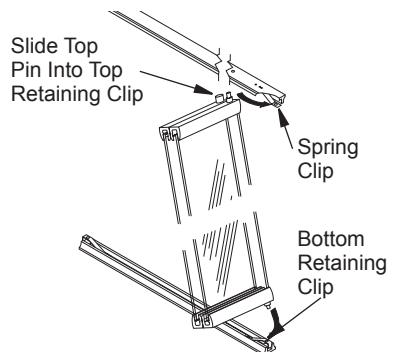

Figure 31 - Installing Doors
1. With bi-fold doors completely folded, insert bottom pivot pin into bottom retaining clip located at far left and far right side of bottom rail. Swing door to vertical position making sure top pins slide into top door rail. Door is installed when top door pin snaps into spring clip (see Figure 31).